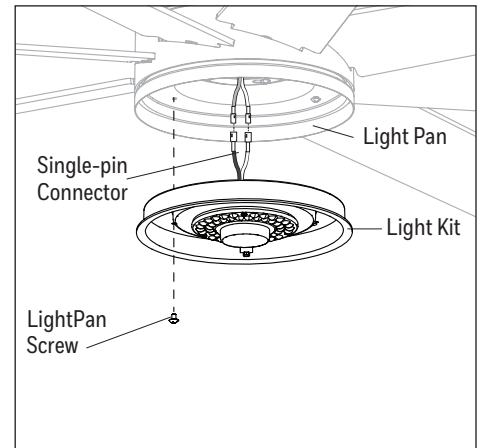

Figure 5.6
6. Remove one of the three light pan screws from the light pan and loosen the other two but do not remove. Connect the single-pin connector from the light pan to the single-pin connector from the light kit -- blue to black and white to white. Lift the two keyhole slots in the light kit over the two loosened light pan screws and turn in a clockwise direction. Then, use the previously removed light pan screw to secure the light kit to the light pan. Tighten all screws (Figure 5.6).